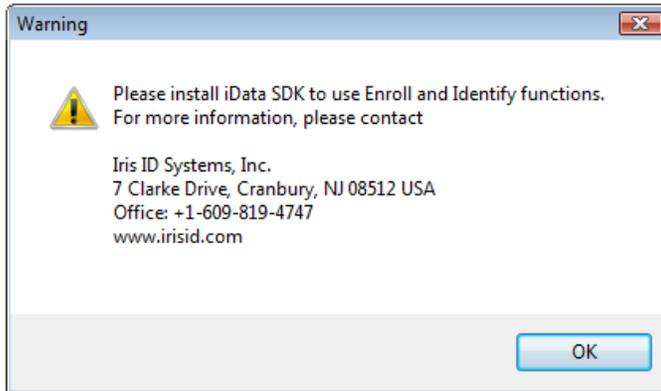

Fig. 2
*\*Note:* If the iData SDK is not installed on the computer, the application will display a warning message as displayed in Fig. 2 - Press > “OK” to continue and close the dialog box.